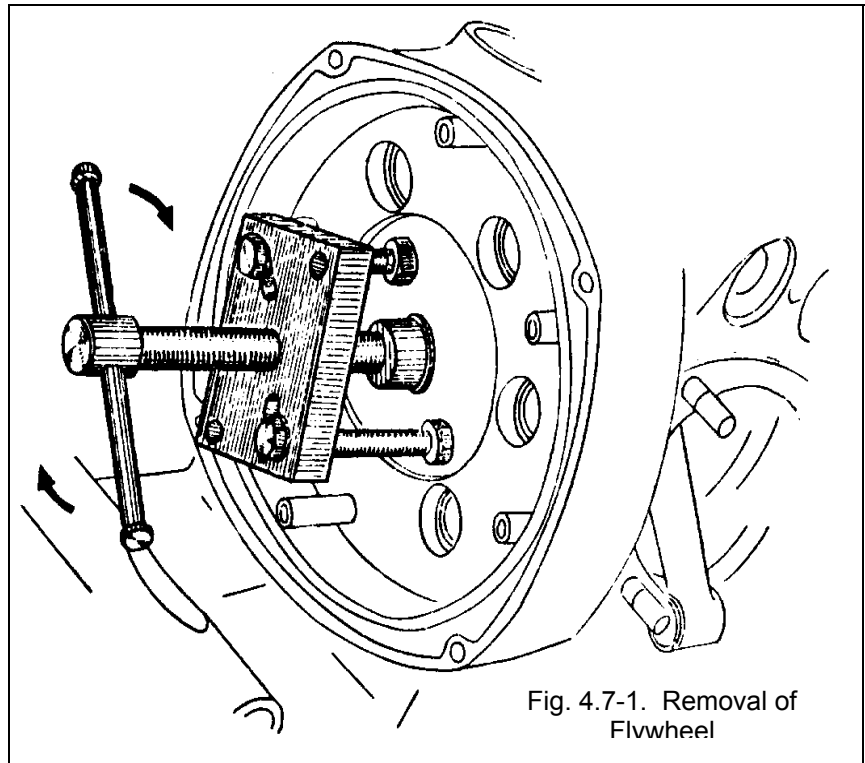

Fig. 4.7-1. Removal of Flywheel
5. Fasten the remover 345-042-3 on the flywheel; by turning in the central screw of the remover, remove the flywheel from the crankshaft tapered end (Fig. 4.7-1).